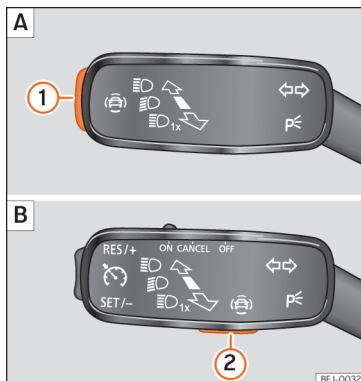

Fig. 134 On the turn light and main beam lever: key for driver assistance systems (depending on the version).
- Press » **Fig. 134** **1** or **2** briefly to open the **Driving aids** menu.